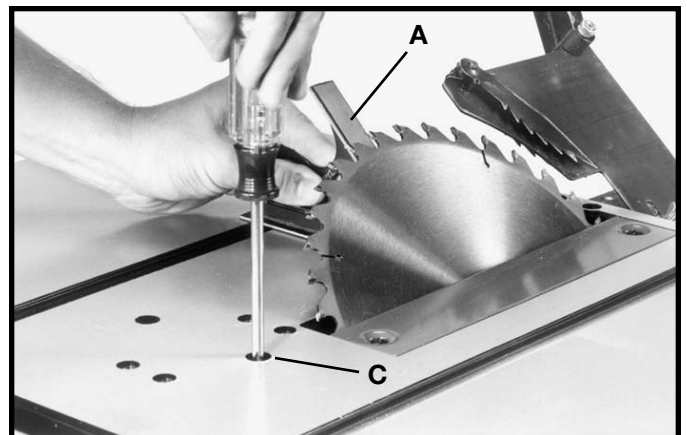

Fig. 47
6. Place a square (A) Fig. 47, on the table with one end of the square against the blade as shown, and check to see if the blade is at 45 degrees to the table. If it is not, loosen screw (C) a few turns and move the blade tilting mechanism until the blade is at 45 degrees to the table. Then tighten blade tilting lock handle and tighten screw (C) until it bottoms.